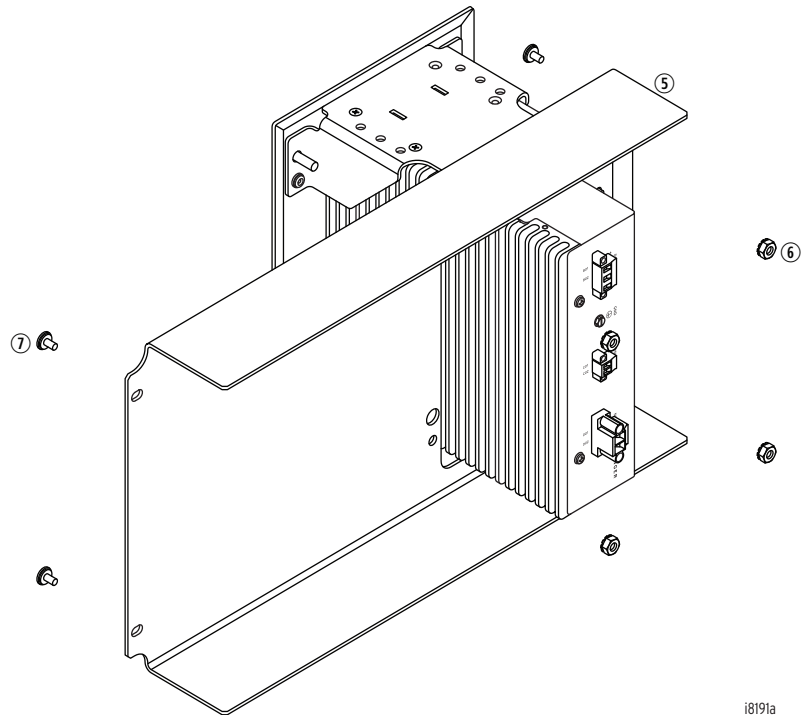

Figure 8 Removing/Installing the Relay in a 19" Rack Panel
- Step 1. Remove the four (4) KEP nuts ⑥ and discard. Remove the unit from the existing panel (see *Figure 8*).